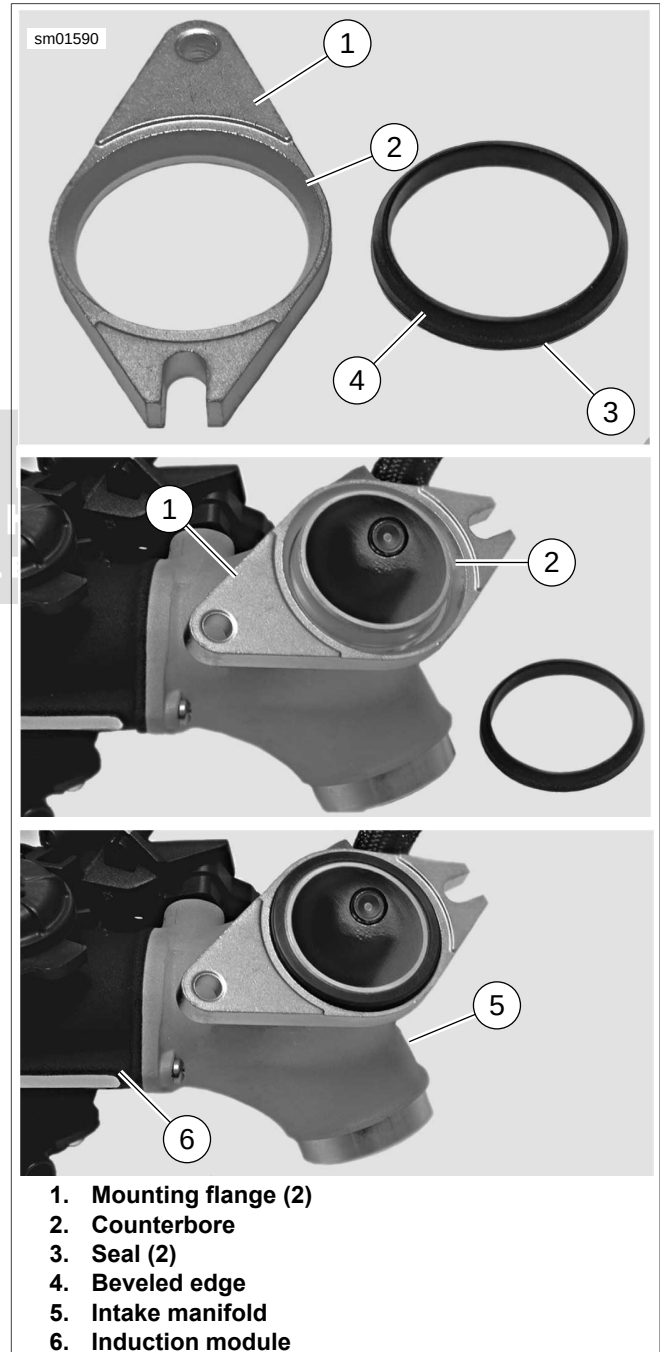

Figure 4-40. Installing Mounting Flange and Seal
2. See Figure 4-40. Install mounting flanges (1) on intake manifold (5) with counterbore (2) facing away from manifold and open slotted ends of flanges facing away from induction module (6).
3. Place a **new** seal (3) into each mounting flange with the beveled edge (4) facing the mounting flange counterbore.